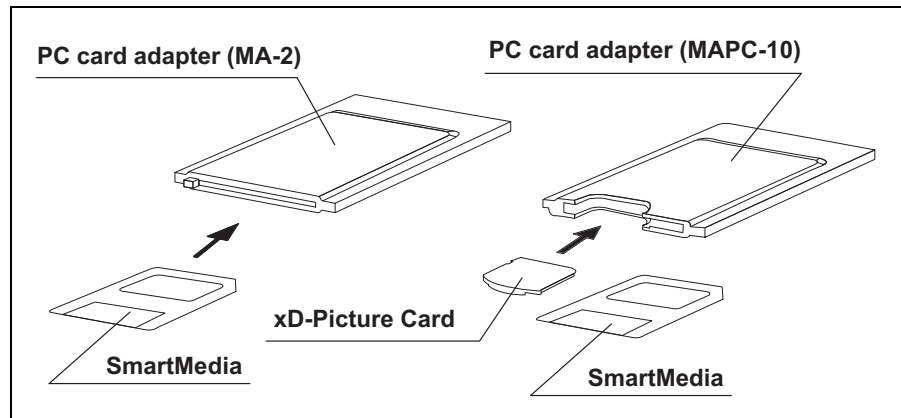

Figure 3.18
1. Insert Memory Card (SmartMedia, xD-Picture Card) into the PC card adapter (MA-2E, MAPC-10) (see Figure 3.18).